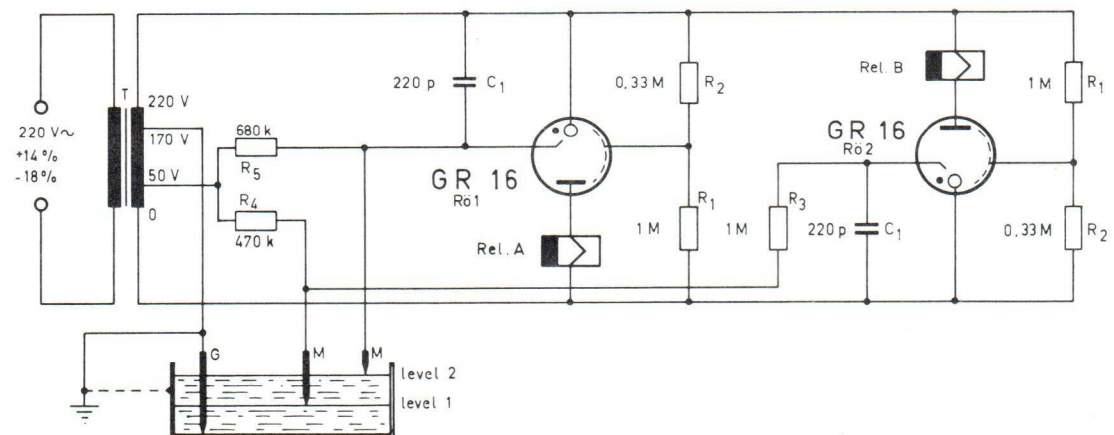

Fig. 6
- Transformer: Power about 8 VA, in the case of Fig.6 about 16 VA
3.3.2 Baissed-on circuit, Fig. 6